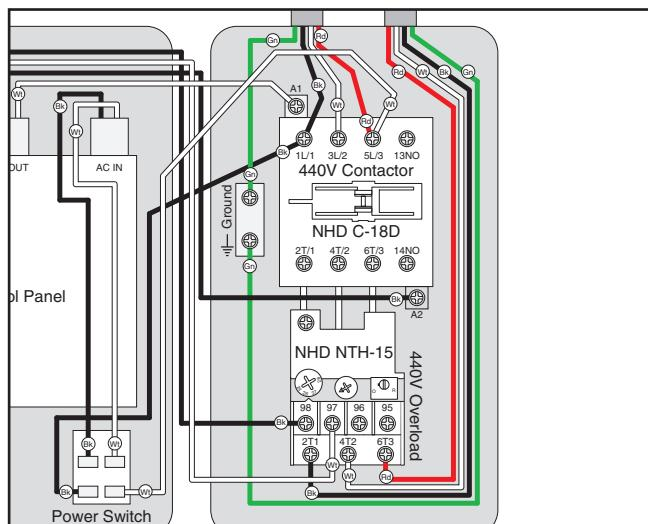

Figure 3. Model G0637 control box overload relay and transformer.
4. Re-attach the power cord to the magnetic switch, the new motor cord to the overload relay, and the grounding wire to the ground terminal (see **Figure 3**).